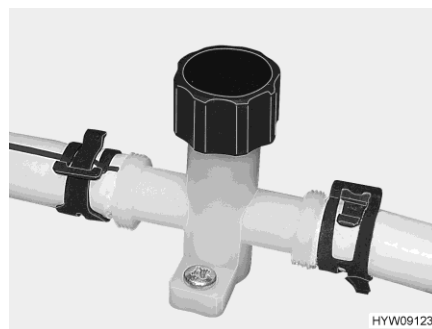
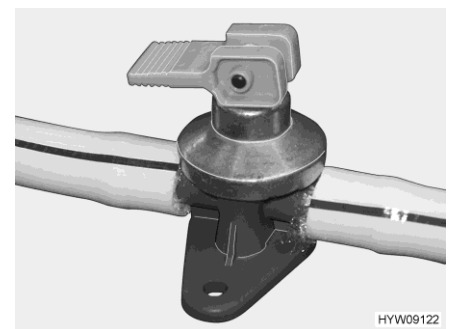

Fig. 202 Drain cock (water pipe)
Fig. 203 Drain cock (Alde boiler)
- Close drain cocks (Fig. 202 and Fig. 203). To do so, close the caps by turning them in a clockwise direction and set the rocking lever in a horizontal position. The position of the safety/drainage valve and the drain cocks is specified in the section 10.7 at the end of this chapter.